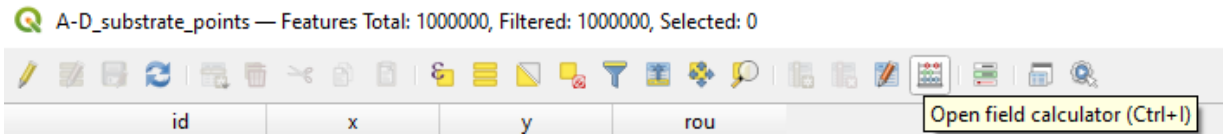
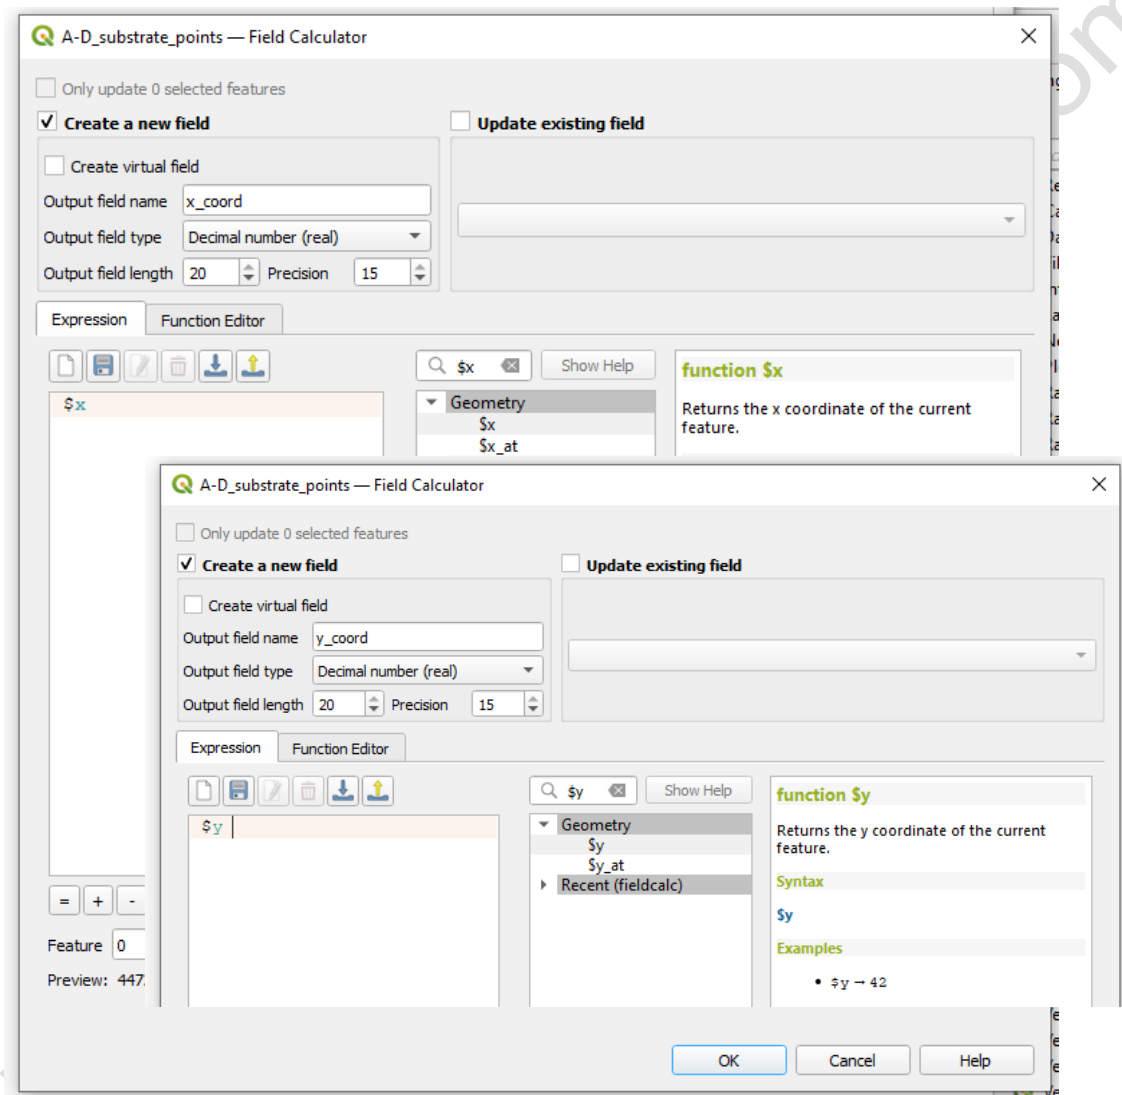

Figure 6: Open Field Calculator.
Figure 7: Add a new field for the x and y coordinate.
5. Open the Field calculator (Figure 6) and add the x and y coordinates (Figure 7) to the generated points.